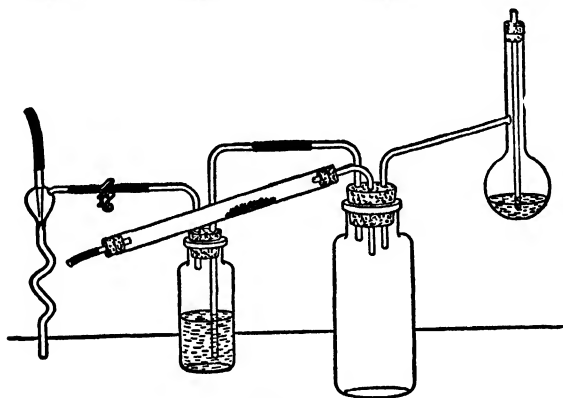

FIG. 26.
a. (Two students working together.) Obtain a distilling-flask (25 c.c.), rubber connections for a safety bottle, a screw-clamp, and a Chapman pump from the storeroom. Fit up with your one-liter bottle the apparatus as in Fig. 26. Charge the hard glass tube with about 10 g. of granular pyrite,\* and place a small, loose plug of asbestos just beyond the pyrite to retain any unburnt sulphur. Put into the distilling-flask about 10 c.c. of pure concentrated nitric acid. The safety bottle, half filled with water to show the rate at which air is being drawn through the apparatus, is attached to the water pump. The total air admitted is regulated by the screw-clamp between the pump and the safety bottle, while the proportions which pass over the pyrite and which carry over the nitric acid vapor, respectively, are regulated by pinching one of the tubes with the finger and thumb.